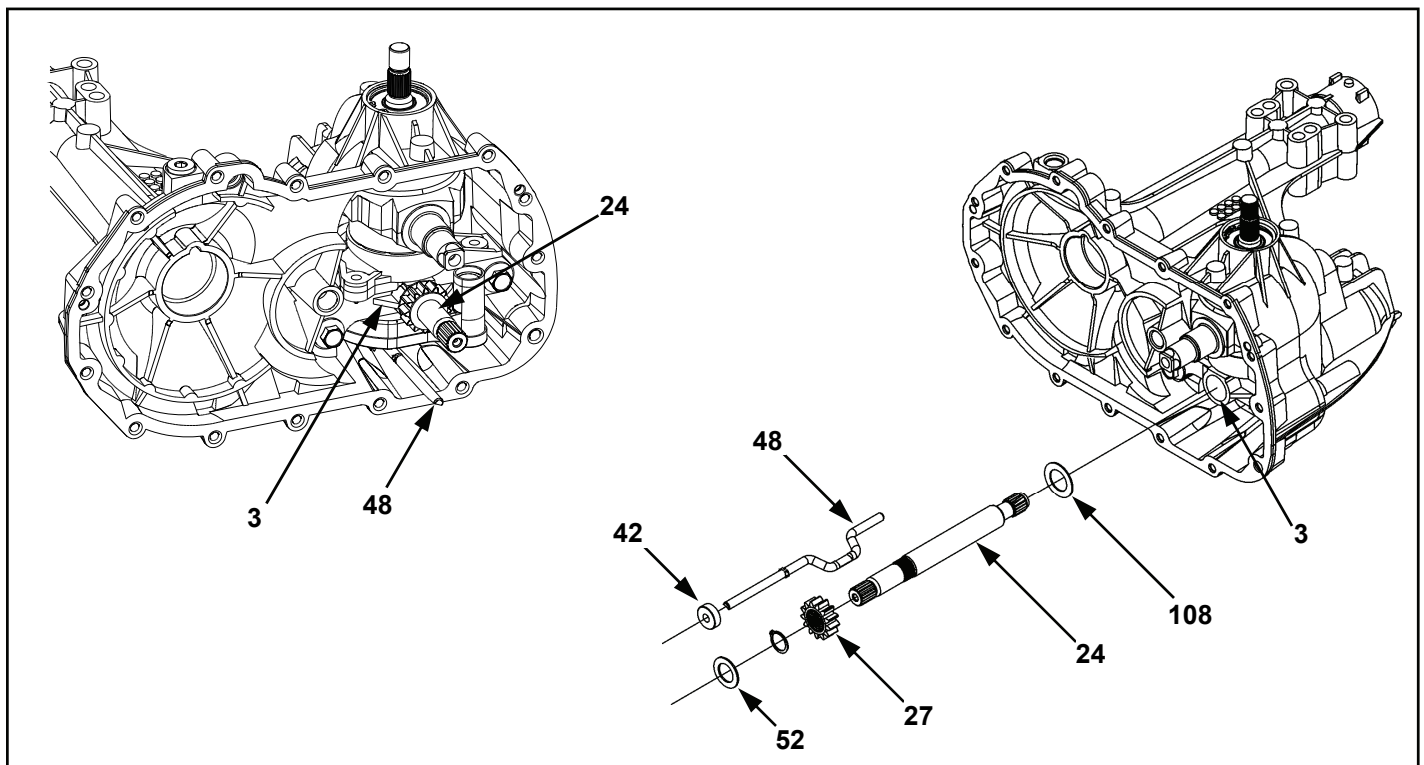
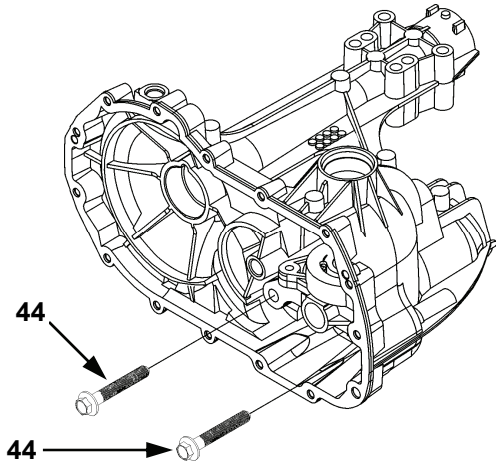
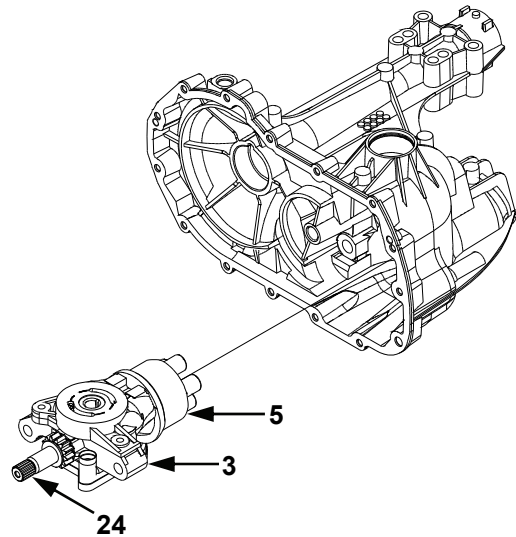
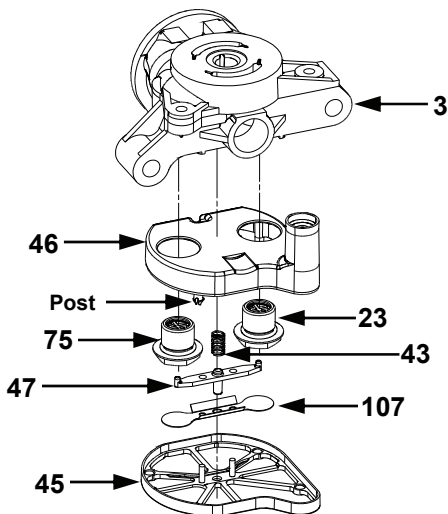

Figure 13. Motor Shaft & Bypass Rod Assemblies
Figure 19
Figure 23
Figure 21
Refer to Figure 13.
14. **(See Fig. 19)** Remove the center section mounting screws (44). NOTE: The center section is under motor block piston spring pressure. These screws are factory installed to 700 in. lbs. (80 Nm) and use an anaerobic thread adhesive. A breaker bar will be required at this step. Clean the internal threads of the mounting holes with compressed air.
16. **(See Fig. 21)** Remove the filter (45) from the filter base (46) by snipping the four posts with side cutters or applicable tool. NOTE: This filter cannot be reused.
17. Remove and inspect the deflector (107), bypass actuator (47) and bypass spring (43).
18. Note the location of both check plugs (23 & 75) before removal for correct placement during reassembly. Remove and inspect the check plug assemblies (23) for debris or damage.
19. Remove the filter base (46) and discard it. NOTE: The filter base is included in the filter kit to be installed during reassembly of the unit.
3. **(See Fig. 21)** Install the new filter base (46) onto the center section (3).
4. Install the check plugs (23 & 75), in their correct location, into the center section (3). Tighten the check plugs according to Table 5.
5. Install the bypass spring (43) into the filter base (46).
6. Install the deflector (107) into the underside of the filter (45).
7. Install the bypass actuator (47) into the underside of the deflector (107).
8. Hold the stem of the bypass actuator (47) from the top of the filter (45) to retain the deflector (107) and bypass actuator (47) in place when snapping the filter (45) onto the filter base (46). NOTE: Filter installation is best accomplished by using the spacer (65, Page 32) as an assembly tool over each of the (4) snaps while lightly tapping with a rubber mallet. Excessive force will result in damage to the plastic filter components.
9. **(See Figures 13 & 23)** Install the motor shaft (24), pinion gear (27) and flat washers (52 & 108) into the center section (3).
10. Assemble the motor block assembly (5) onto the motor shaft (24).
11. **(See Fig. 23)** Install the motor shaft, center section and motor block assembly so that the block pistons contact the thrust bearing race. NOTE: Hold in place and insure all pistons are still positioned correctly in the cylinder bore by confirming spring bias against the center section.
12. **(See Fig. 19)** After applying thread adhesive, insert the center section mounting screws (44) while holding downward pressure on the center section assembly (3, Fig. 23).